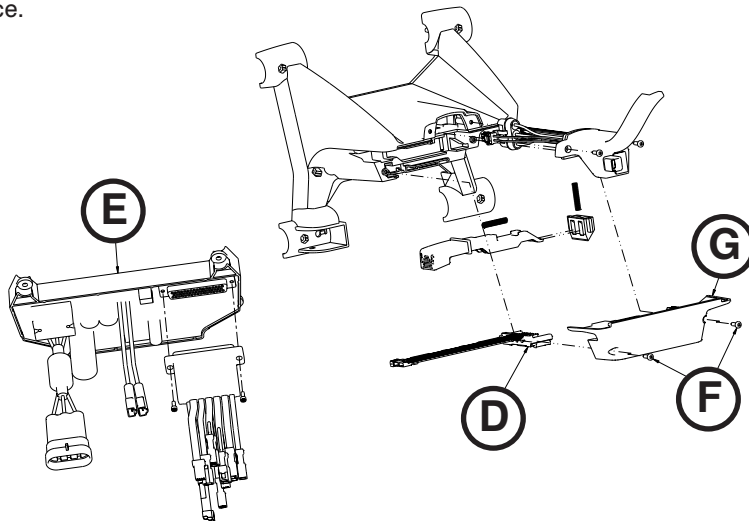

Figure 103
6. Unplug the black and red wires that connect the cot connector cable assembly (D) to the control board (E) (Figure 103).
7. Using a T20 Torx driver, remove the two delta screws (F) from the bottom plate of the foot end enclosure (G) to remove the enclosure (Figure 103). Save all parts for reinstallation.